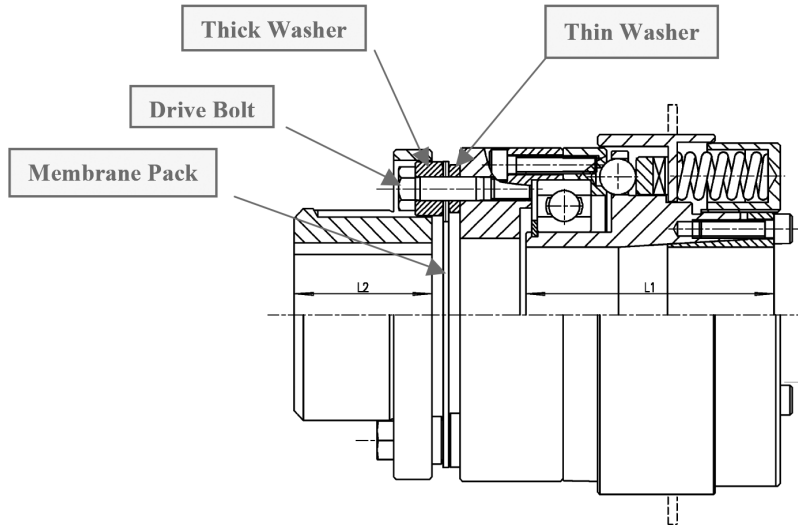

Figure 1
Coupling hubs are supplied with the membrane pack assembled to the hub. A set of bolts and washers is supplied for connection to the torque limiter. When the hubs are aligned and in position, insert the bolts with the thick and thin washers positioned as shown in Figure 1, either side of the membrane pack and tighten evenly to the specified torque. (See Table 3). Ensure that the rounded faces of the washers face the membrane pack.
*For types 5&6 (Figure 1), disassemble from the shafts and on the Autoflex side remove the three bolts (the bolts with the clearance holes) to decouple the Autoflex from the adaptor plate. Then remove the bolts which hold the adaptor plate to the torque limiter.